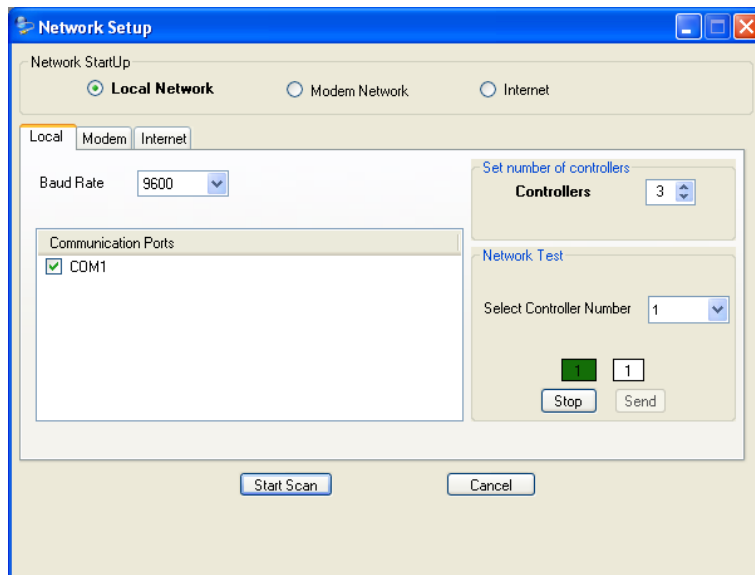

Figure 18: Reception is Good
- o If the Tx/Rx button turns green, transmission/reception to the controller is normal (see Figure 18).